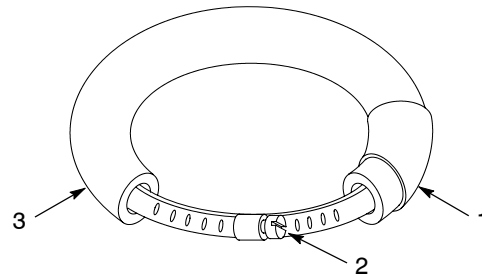

Figure 8 Follower Plate Seal
9. See Figure 8. Follow these procedures to remove the seal:
- a. Carefully cut the heat shrink tubing (1) at both seal joints.
- b. Loosen the worm clamp (2) at each seal.
- c. Remove the seals (3).